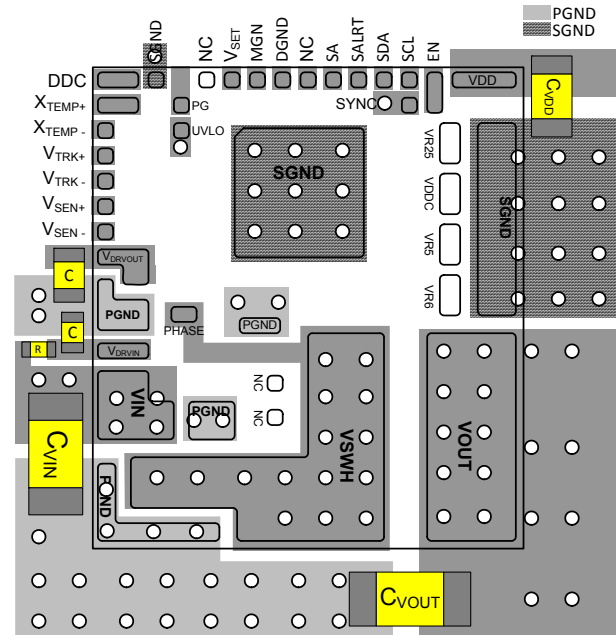

FIGURE 29. RECOMMENDED LAYOUT - TOP PCB LAYER
- For $VDD > 6V$, the recommended PCB layout is shown in Figure 29. Leave V25, VDDC, VR5, and VR6 as no connect.